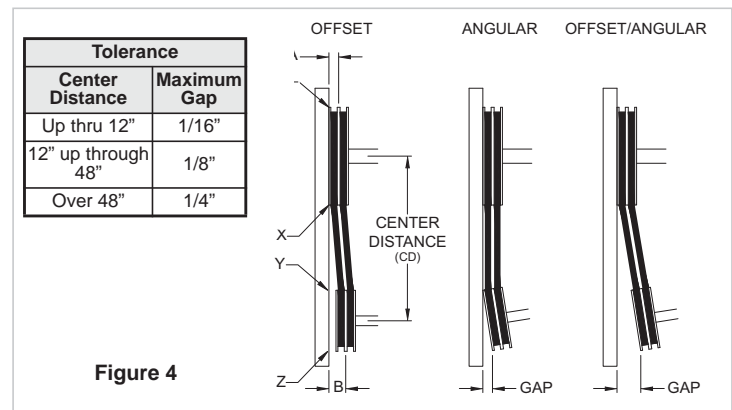
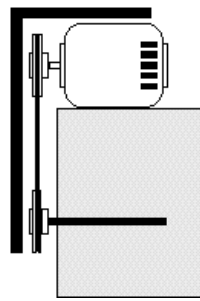

Figure 4
Figure 5
4. Ensure pulleys are properly aligned. Refer to Figure 4.
Figure 4 indicates where to measure the allowable gap for the drive alignment tolerance. All contact points (indicated by WXYZ) are to have a gap less than the tolerance shown in the table. When the pulleys are not the same width, the allowable gap must be adjusted by half of the difference in width (As shown in A & B of Figure 4). Figure 5 illustrates using a carpenter's square to adjust the position of the motor pulley until the belt is parallel to the longer leg of the square.